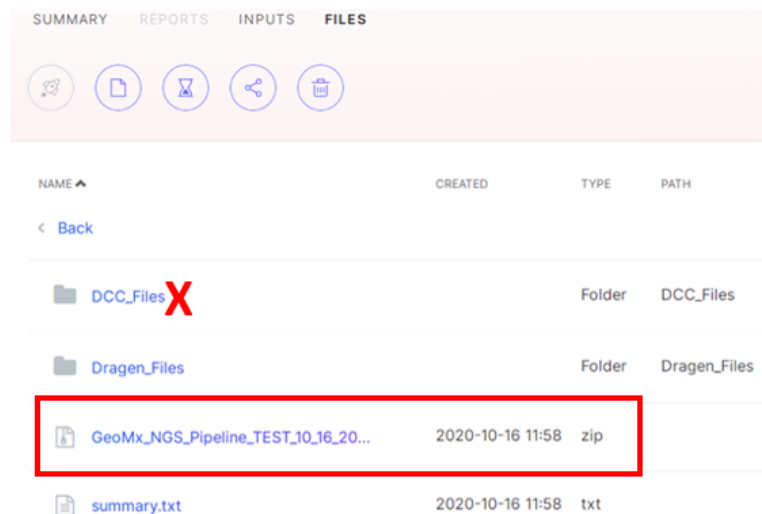

Figure 32: DCC.zip file output from GeoMx NGS Pipeline
8. Within **Analyses**, open folder **GeoMx_NGS_Pipeline**. Download the DCC.zip output with the **name:GeoMx_NGS_Pipeline_...** and **file type: zip** (see Figure 32). (Despite its name, the folder "DCC_Files" is not the zipped DCC output for download).